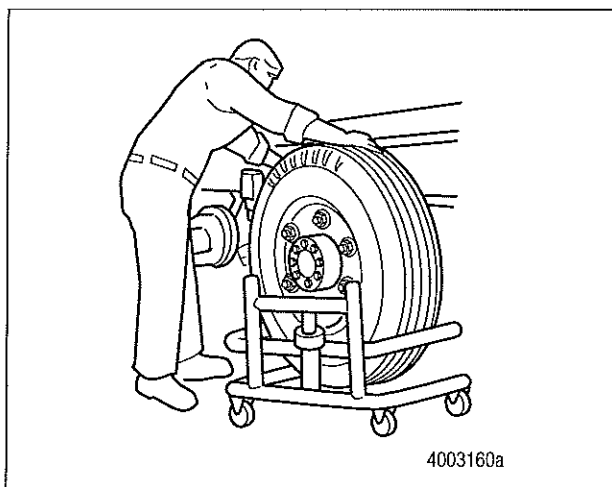

Figure 2
4. Remove the tire and wheel assembly. Refer to the wheel manufacturer's service information for correct procedures. Figure 2.